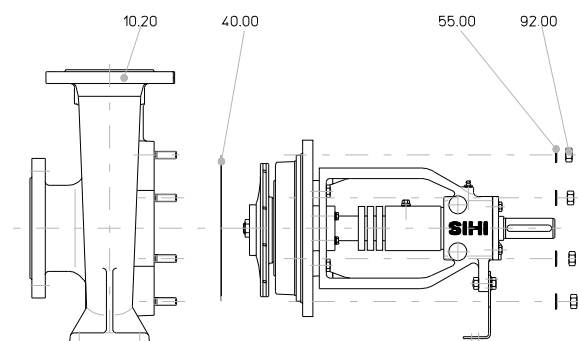

fig. 1
3. Remove the complete insert unit out of the pump casing 10.20 and take off the gasket 40.00 (fig. 1)